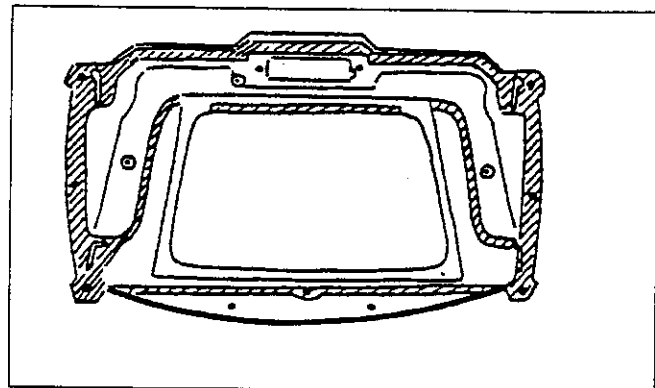

Figure 6. Bottom
6. Cement all the channels, flanges and mating surfaces indicated in Figure 6. Keep the cement off the thermostat cable.